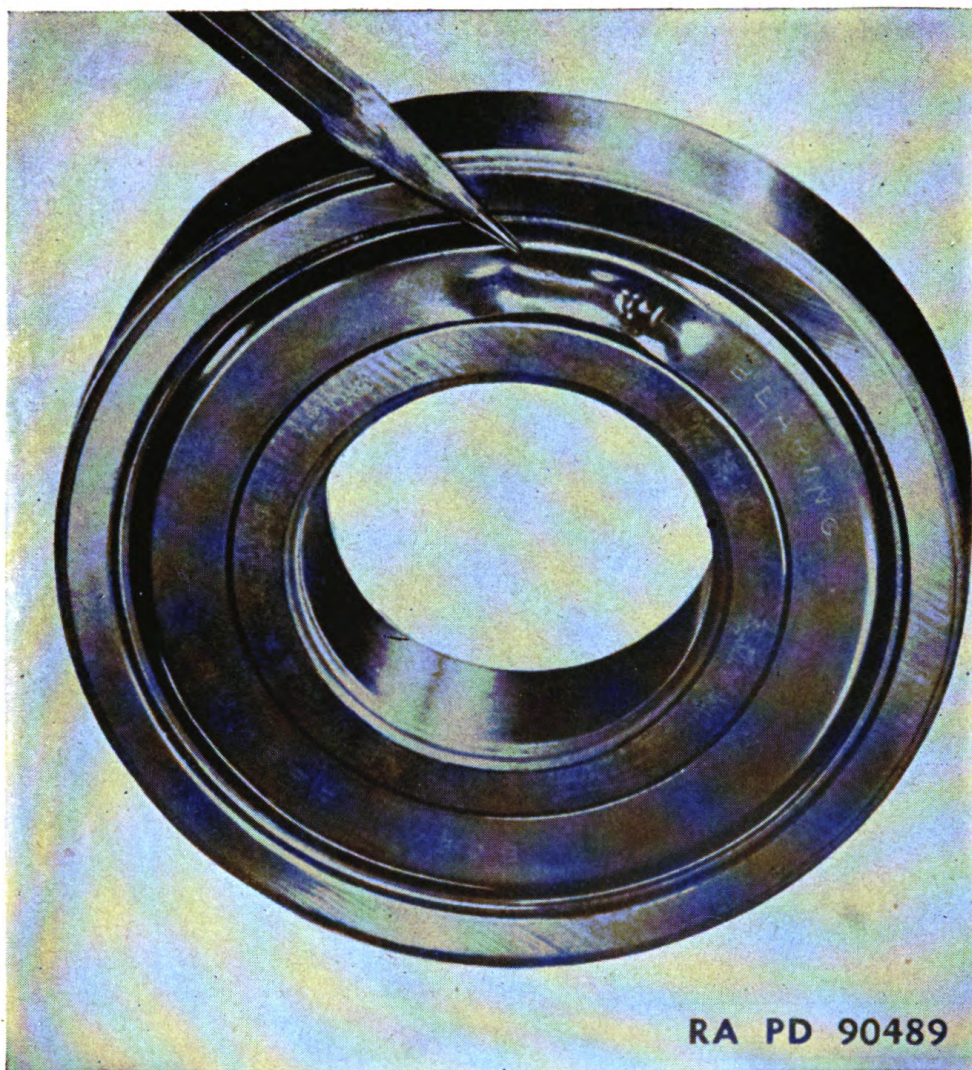

Figure 35. Shield bent by drift that slipped.
(2) Dented seals, shields or rings. (See figs. 35 and 36.)